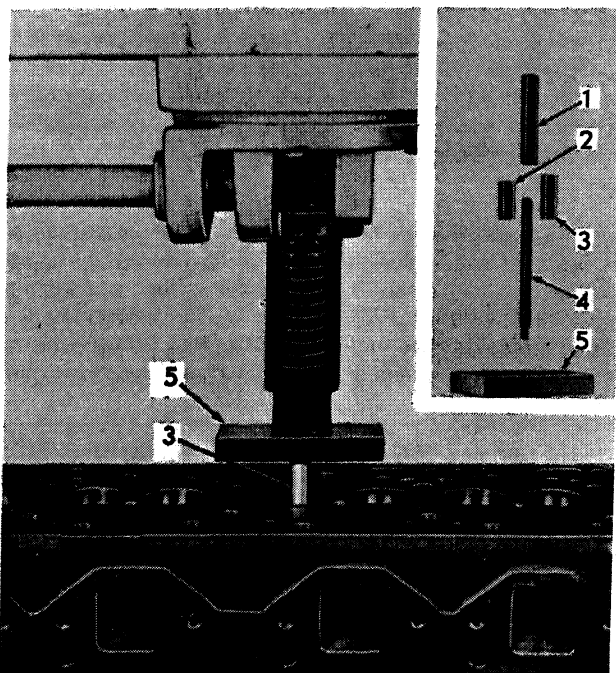

Fig. 16 — Installing Valve Guides
7. New valve guides are pressed into position from bottom of head with a guide installing tool, Fig. 16. The adapters (2) (3) establish proper protrusion of guides above the cylinder head. To use the tool, place cylinder head in a press with head gasket surface up. Assemble guide installing tool by screwing pilot (4) into plate (5). Insert the proper adapter, exhaust (3) or intake (2) on the pilot (4). Insert valve guide (1) on pilot with bottom end against the adapter.